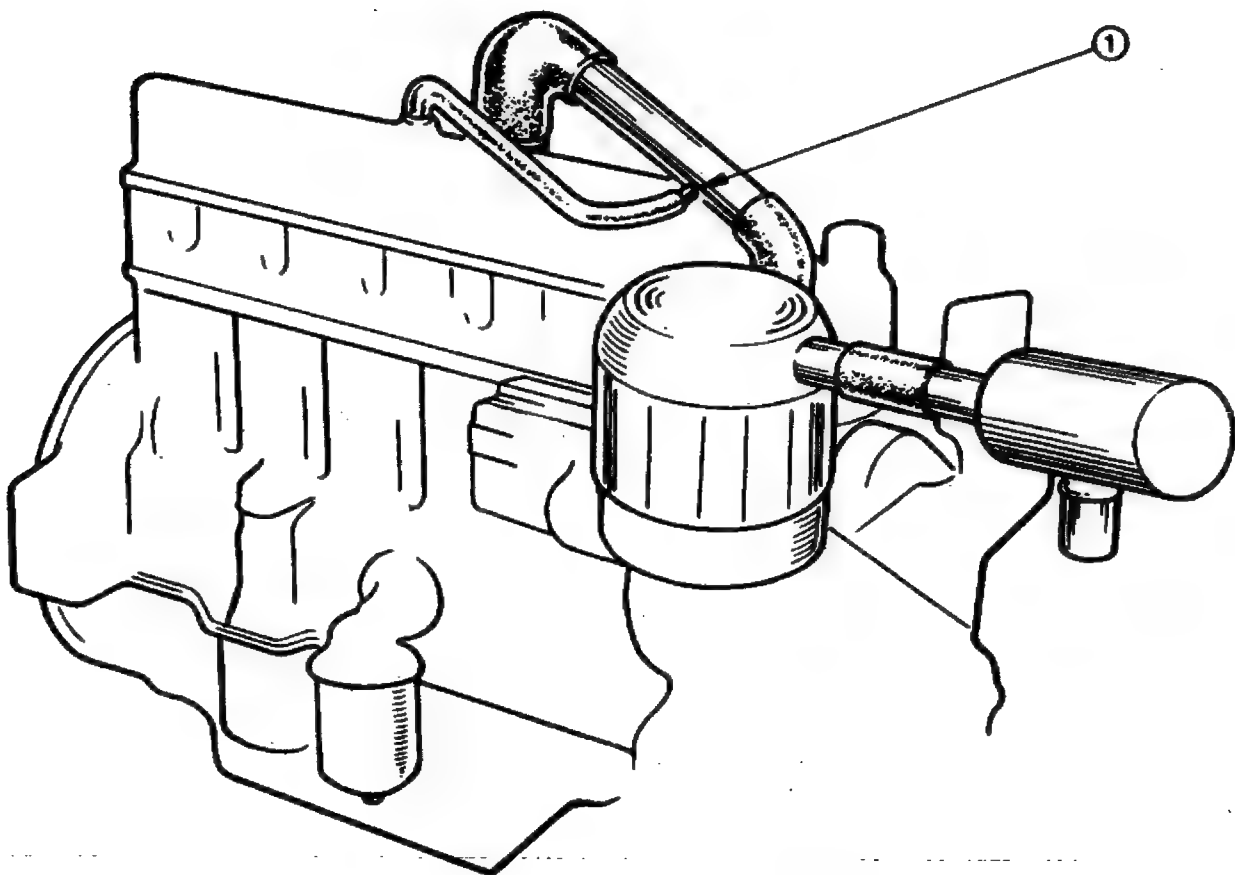

Fig. 8 Typical Breathing System
- (a) Phase I as fitted to 2700E Range engines (Fig. 8).